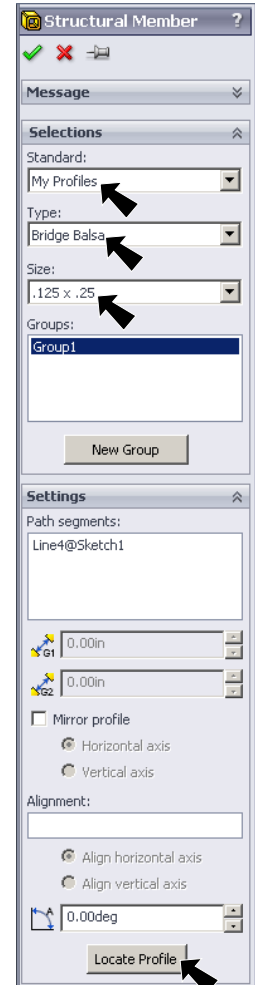

Fig. 12
My Profiles, **Fig. 12**
Step 6. Click **Locate Profile** button, **Fig. 12**.